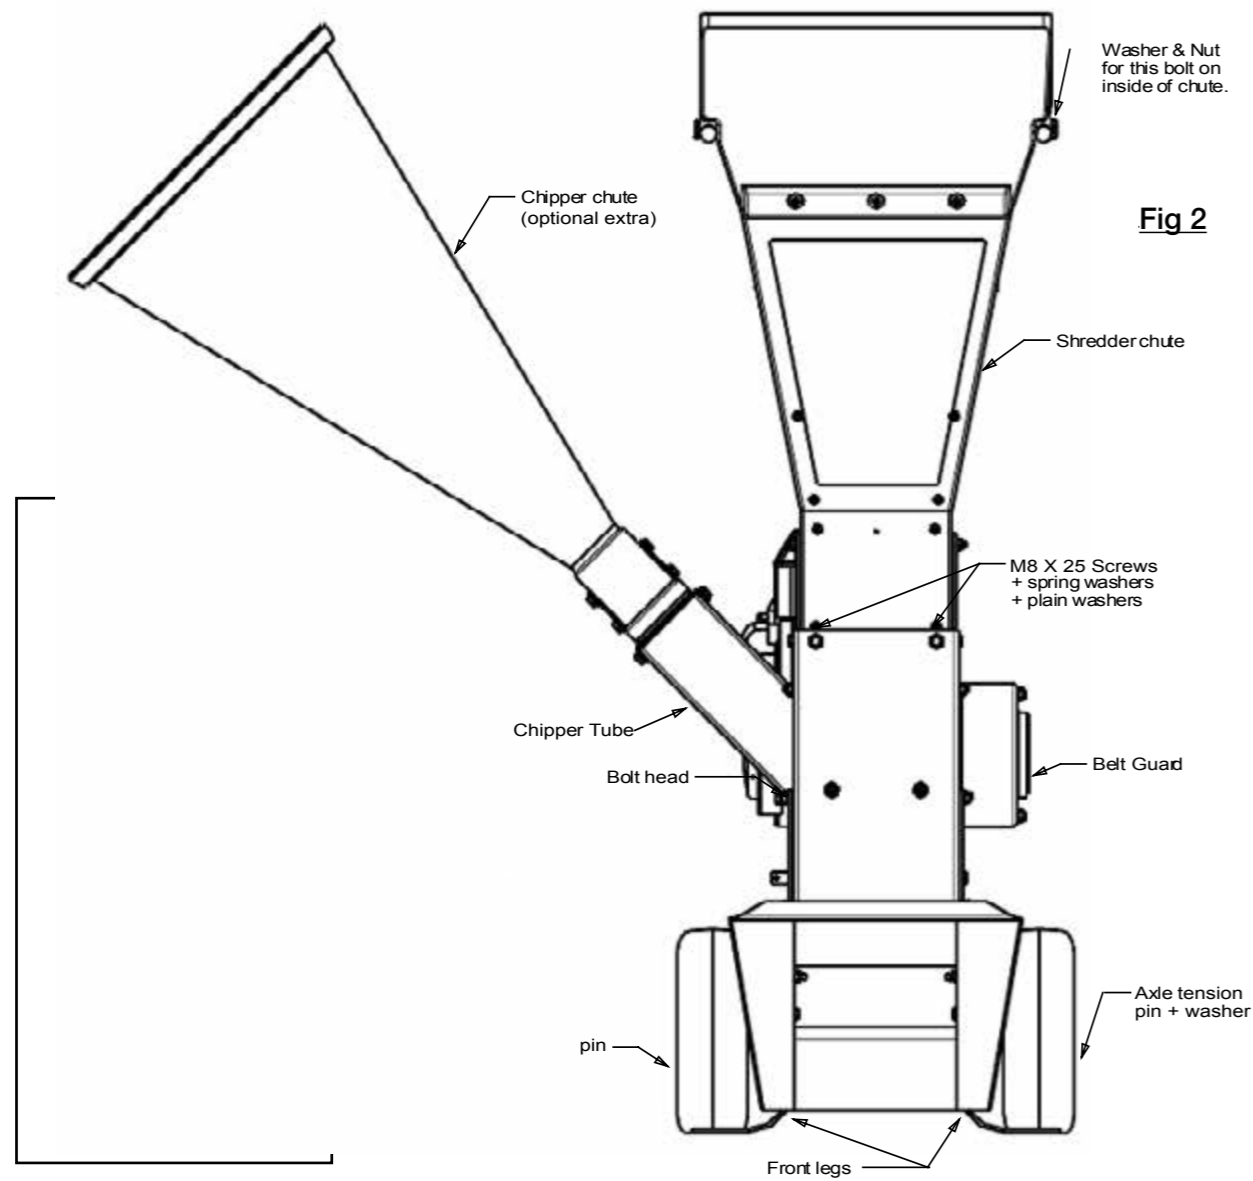

Fig 2
8. Attach the shredder chute to the chassis using two 8mm x 25mm screws and two chute retainers, with plain washers and spring washers on the screws at the front and with two Nyloc nuts outside the chute at the sides. See Fig. 2.
9. Attach the Chipper Chute to the Chipper Tube and tighten the clamp (see Fig 2).